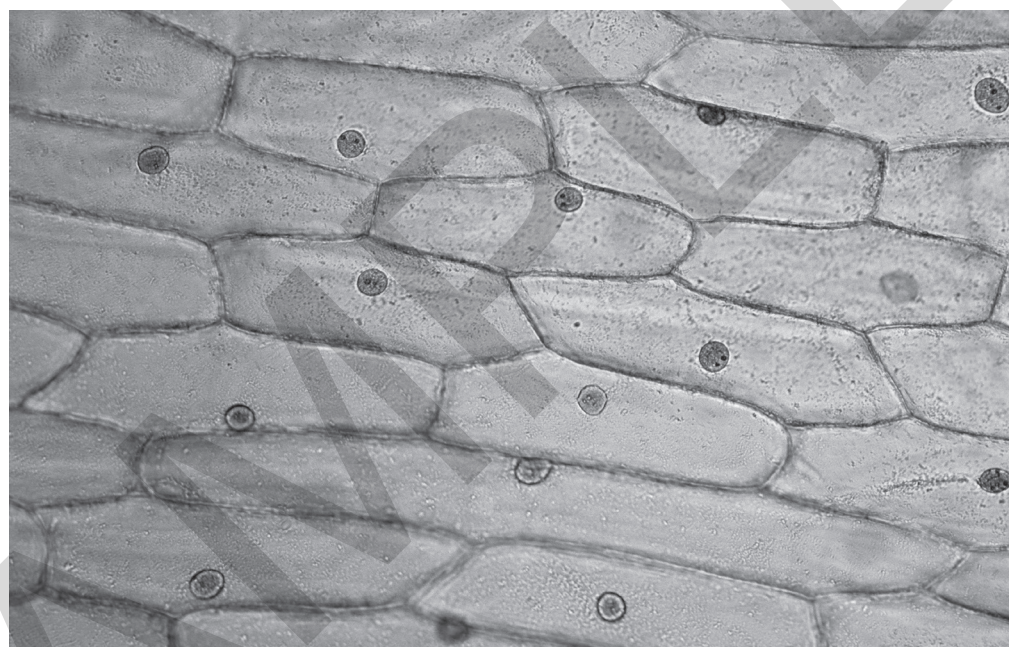

Figure 1.3
- Now turn the fine focusing knob until you can see the epidermis clearly. You should be able to see something similar to Figure 1.3.